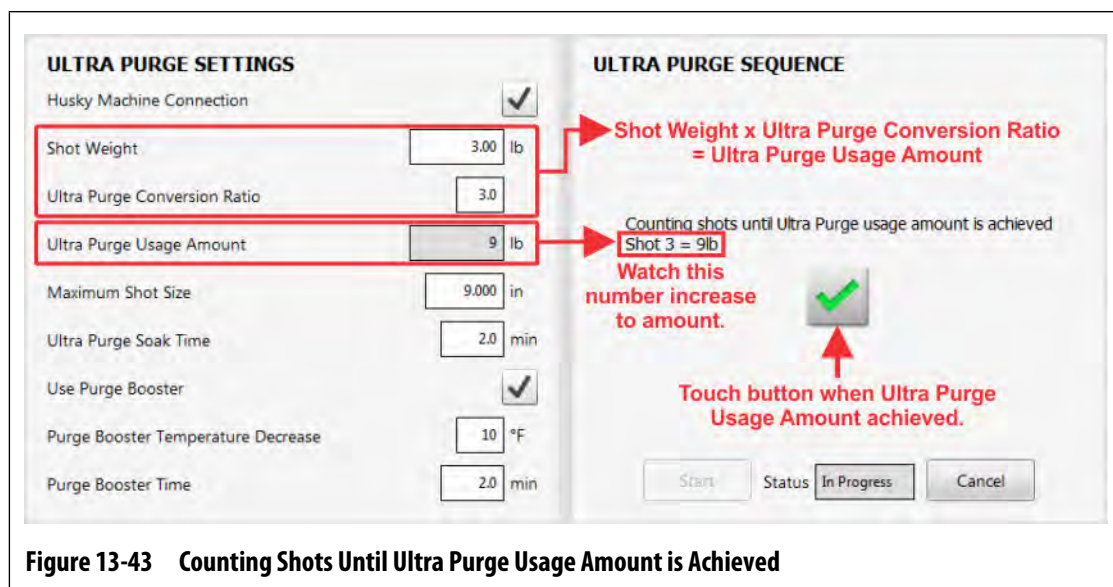

Figure 13-43 Counting Shots Until Ultra Purge Usage Amount is Achieved
- Touch the green check mark button when the controller gets to the Ultra Purge Usage Amount (refer to Figure 13-43).